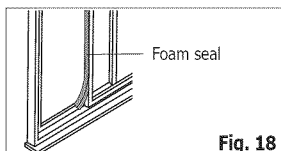

Fig. 18
6. Cut the foam seal to an appropriate length and seal the open gap between the sliding sash and outer window sash, as shown in Fig.18.